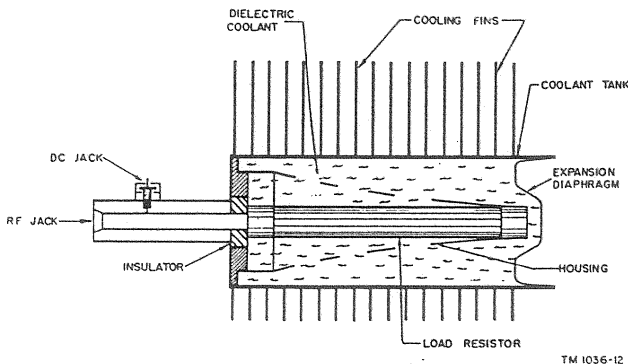

Figure 12. Cut-Away View - Coaxial Load Resistor
(1) Structure - The Load resistor structure is coaxial, having a characteristic impedance of 50 ohms from the r-f input Jack J201 to a point about two inches behind the large 4-1/2 inch diameter mounting flange, see cut-away view of load resistor, Fig. 12. The load resistance